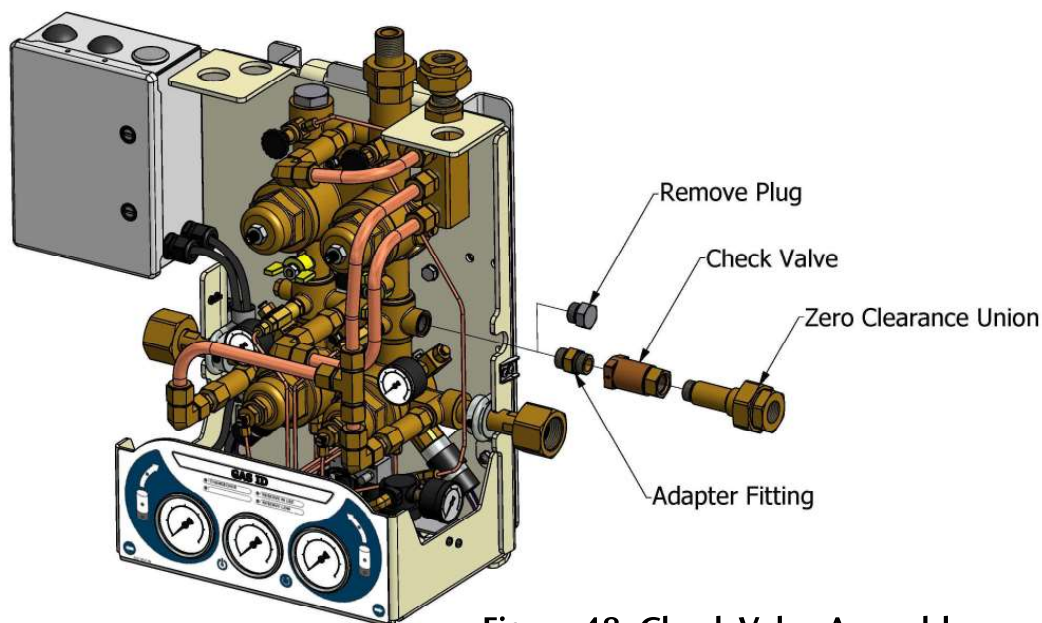

Figure 48: Check Valve Assembly
2. Install the reserve header check valve kit into the right port of the manifold regulator assembly by removing the plug shown in Figure 48.